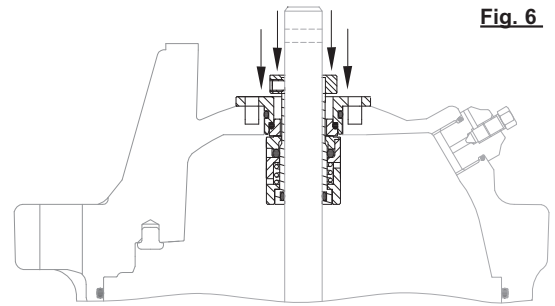

Fig. 6
2. After rubber is wetted, slide the mechanical seal down the pump shaft. (Fig. 6)